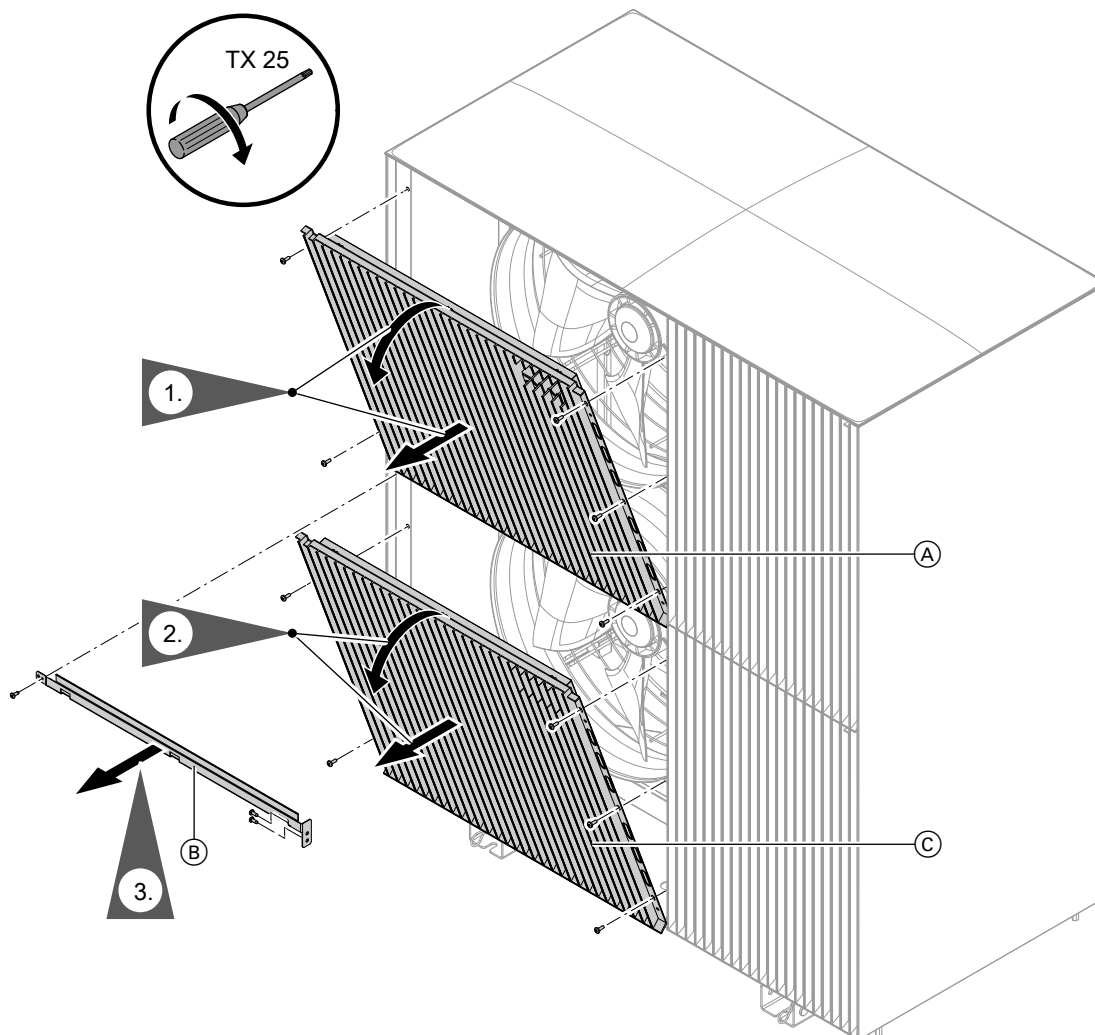

Fig. 104
3. Remove fan grilles and reinforcing strut: See Fig. 104.